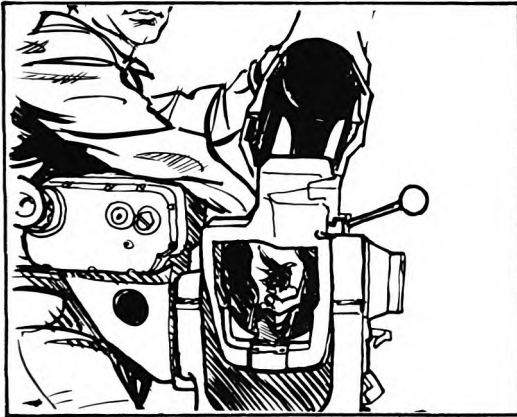

Figure 12. Launch tube latch.
b. Hold the launch tube latch up, and lower the forward end of the launch tube (figure 12).